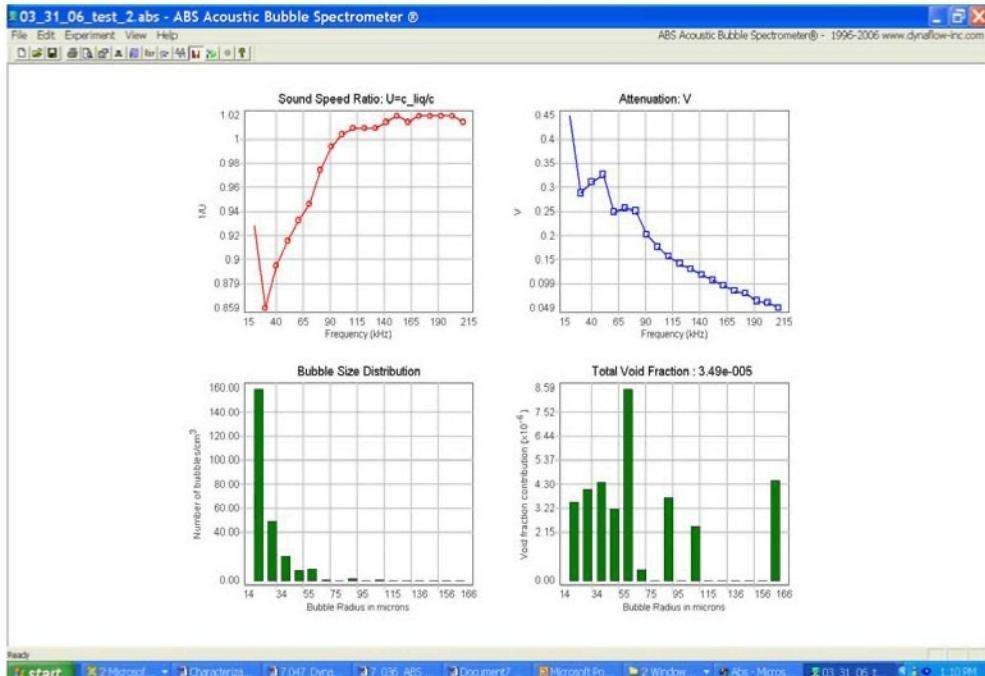

Figure 15. Display of the Analyzed Results.
*Settings/Signals* page are sent by the transmitting hydrophone and acquired by the receiving hydrophone. In order to improve the signal analysis a rectangular wave with the same duration as that of the matching sine wave is also added. The *Acquire* function can also be invoked from the menu by clicking *Experiment/ Acquiring Signals* or by pressing the *F8* key. The screen is automatically refreshed after the data acquisition is completed and processed. The raw or analyzed “sent” and “received” signals are displayed (Figure 10) based on the user selection if set in *View Signals* mode originally. The analysis results are displayed (Figure 15) if the *View Results* mode is originally set.
Under the regular ABS mode, this button invokes the analysis algorithms that processes the analyzed acoustic signals to obtain the measured bubble populations. The results are automatically displayed on the screen based on user selected display option (Figure 15, described below under **4.6 View Results**). This function can also be invoked by selecting *Experiment /Analyze Signals* or pressing the *F9* key. Under Cavitation Susceptibility mode, this button invokes the algorithms that process the acoustic signals to obtain variation of the filtered received signal with voltage and the determined threshold of cavitation.
This button activates the *View Results* mode to display the analysis results of the experiment (Figure 15). It is automatically enabled after clicking the *Analyze*  button or can be activated by clicking the *View Results*  button at any time.